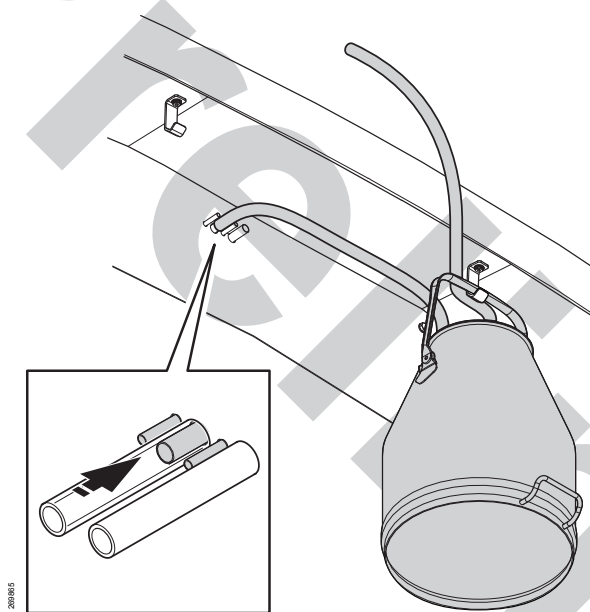

Fig. 13: Milking into a bucket.
2. Connect a tube from the lid of the milk bucket to the dropper pipe, see Fig. 13.